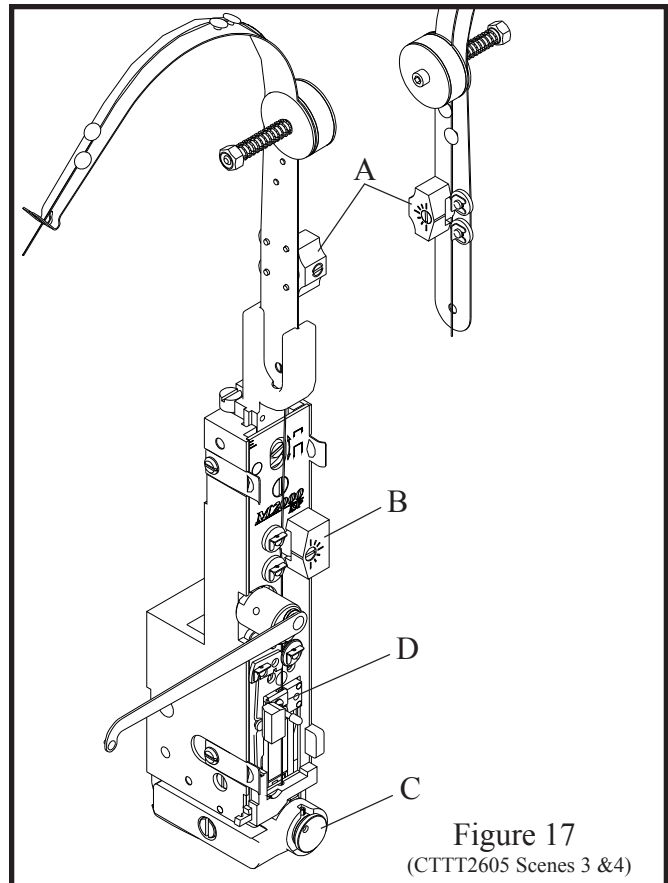

Figure 17
M. Wire Straighteners: (Figure 17)
the wire points straight down as in figure 17. Improper straightening of the wire can also cause the stitch legs to buckle or turn out because they strike the clincher improperly. Excessive tension on the wire straightener prevents the grip (Index D) from feeding the wire smoothly. This causes variation in leg length.